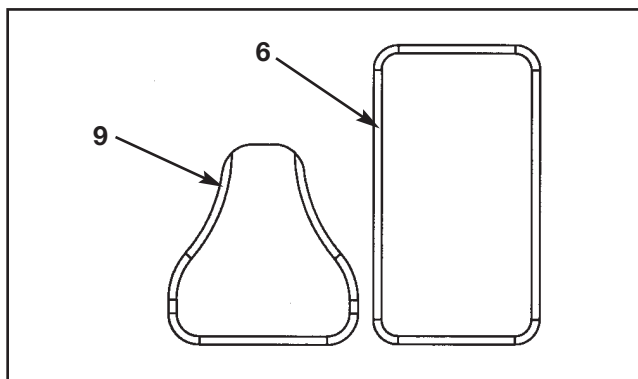

Figure 25
10. Install the back and seat cushions (see steps 10A - 10I and Figures 25 - 28).
- A.** Locate the cushion box and verify the contents as shown in Figure 25.